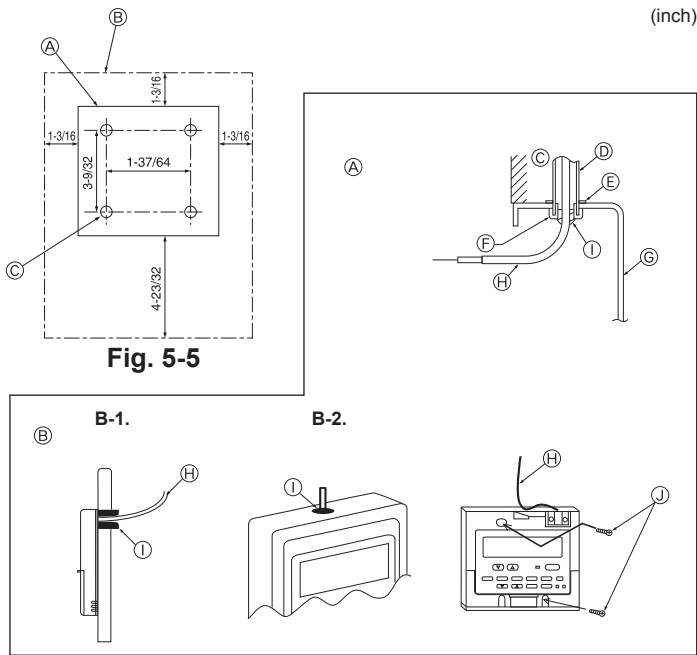

Fig. 5-5
(1) Select an installing position for the remote controller. (Fig. 5-5)